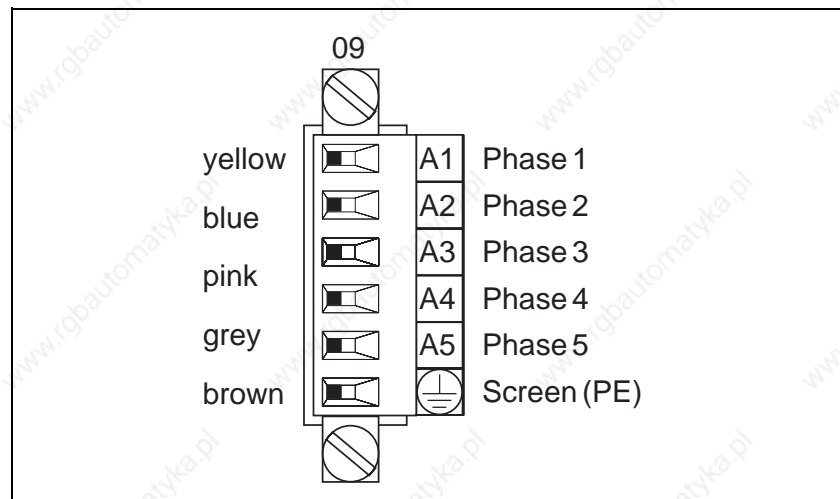

Figure 2-4 Motor connection
2. Insert the 6 wires into cap of the mating plug as shown in Figure 2-4 and tighten the screws.